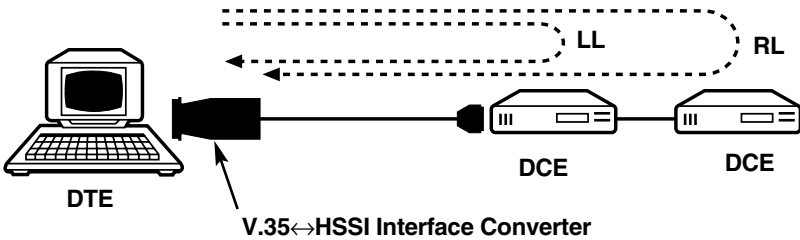

Figure 5-2. Local and remote loopback modes.
The V.35↔HSSI Interface Converter supports two loopback modes that may be used to evaluate the condition of the communication links. These modes, Local Loopback (LL) and Remote Loopback (RL), are always initiated by the signals on the DTE device (see Figure 5-2).